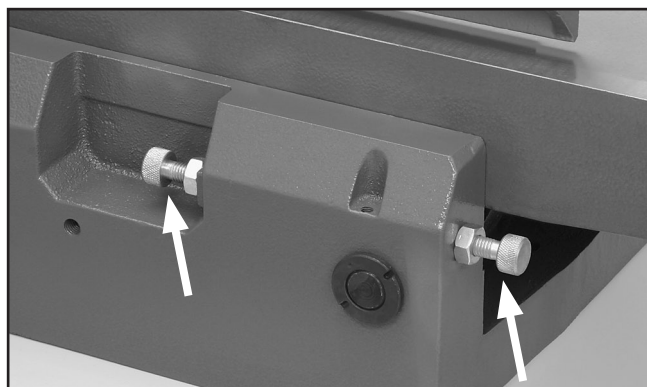

Figure 51. Outfeed table positive stop bolts.
3. Loosen the outfeed table lock located at the front of the machine, and loosen the jam nuts and positive stop bolts located at the back of the machine (see **Figure 51**).
4. Loosen the outfeed table lock located at the front of the machine, and loosen the jam nuts and positive stop bolts located at the back of the machine (see **Figure 51**).
6. Tighten the outfeed table lock located at the front of the machine, and tighten the positive stop bolts and jam nuts located at the back of the machine (see **Figure 51**).